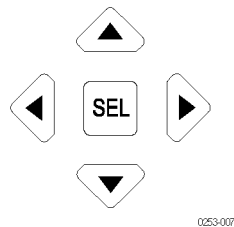

Figure 12: Navigate menus using the arrow keys and select button
4. Use the up and down arrow keys to select parameters in a menu. (See Figure 12.)